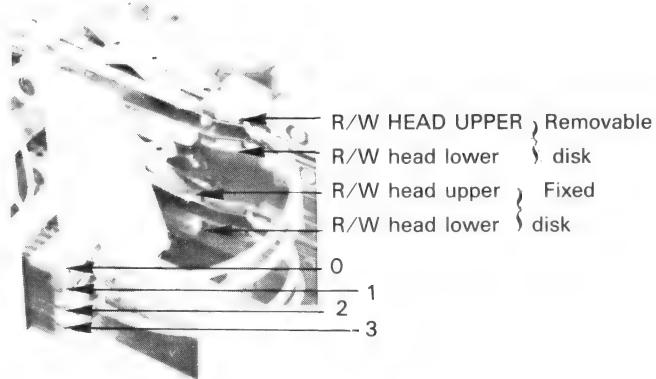

Figure 4.2.8e
- Plug the connector on P.A. board (figure 4.2.8e)